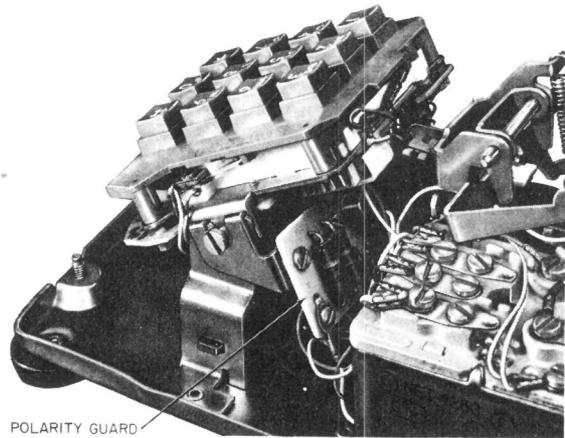

Fig. 2—2500D Telephone Set, Interior
2.11 End-to-End Signaling: Refer to Table C for connections of polarity guard assembly, if required. Guard location for the 2500-type set is shown in Fig. 2. Guard location for the 2554-type set is below the dial or on the left hand dial mounting bracket, depending on type of base pan (Table B).